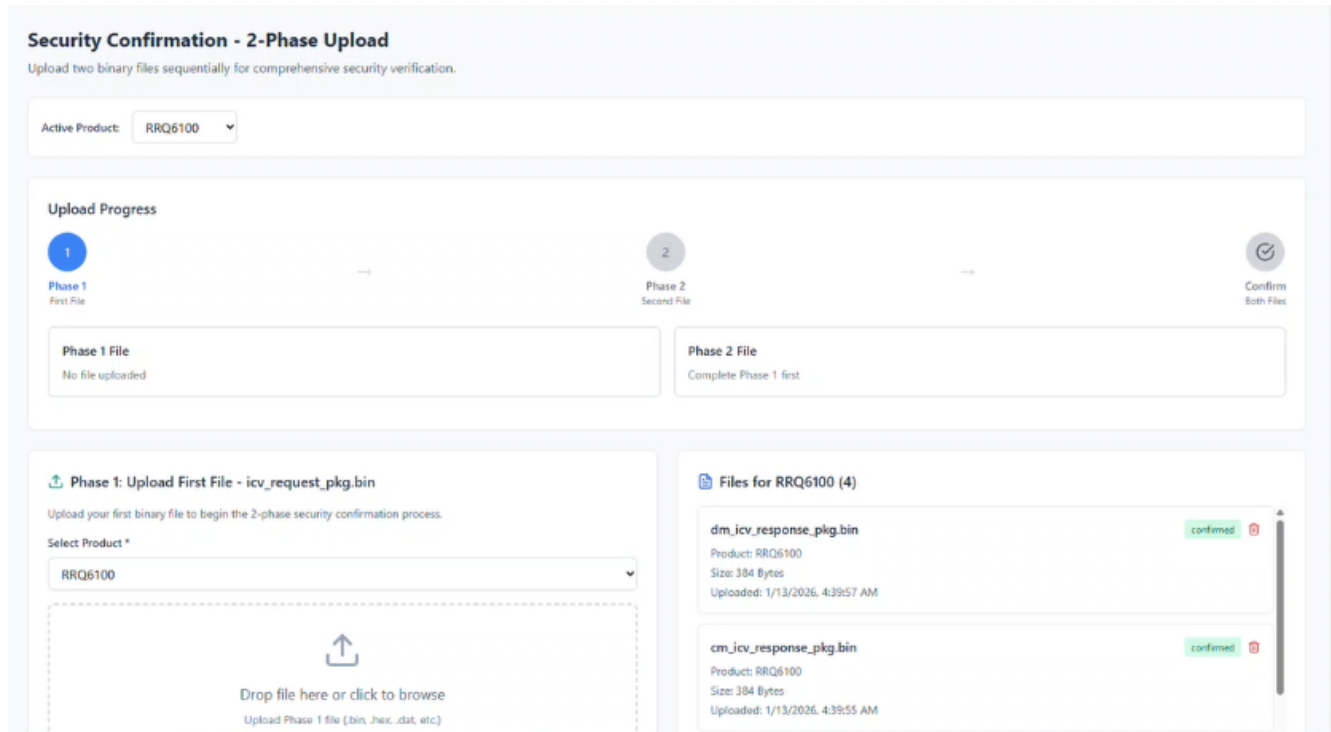

Figure 19. Upload icv_request_pkg.bin
2. Upload the `icv_request_pkg.bin` and `oem_request_pkg.bin` files in the order specified by the online tool, as shown in Figure 19.